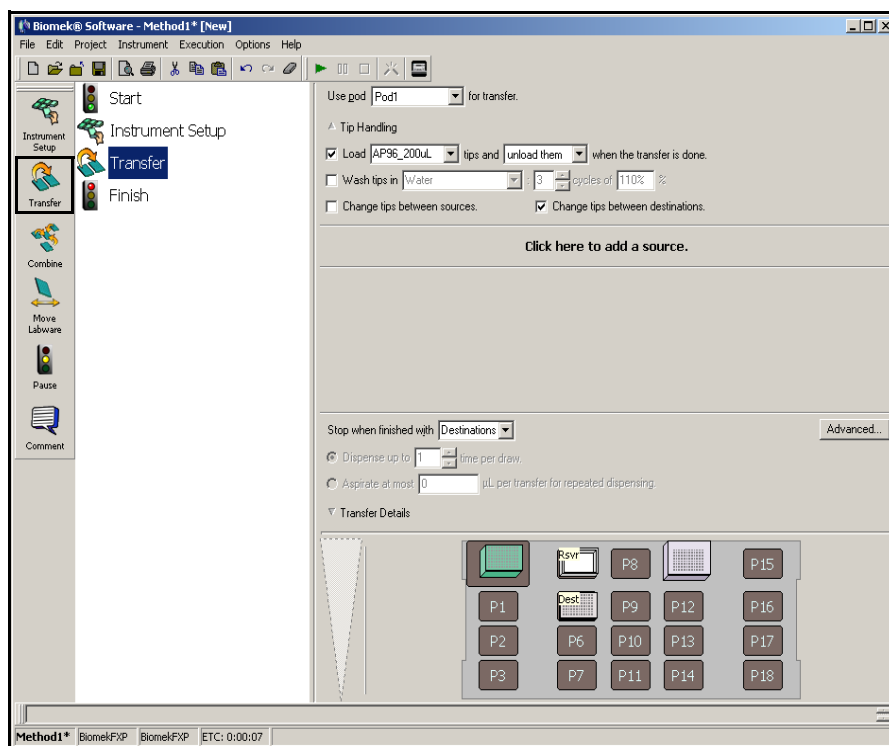

Figure 1-8. Transfer step inserted
2. Choose the **Transfer** icon from the step palette, and insert it into the method by dragging and dropping it after the **Instrument Setup** step. The **Transfer** step configuration appears (Figure 1-8). Notice the **Current Deck** display at the bottom of the editor is now populated to illustrate your deck setup since it changes dynamically to match the state of the deck at the start of the current step.
8. Your tips are configured for your liquid transfer, so click the **up arrow** next to Tip Handling (Figure 1-8). This collapses the Tip Handling configuration to allow more room for labware configuration. A simple text description of the way tips will be handled is displayed in place of the expanded Tip Handling configuration.